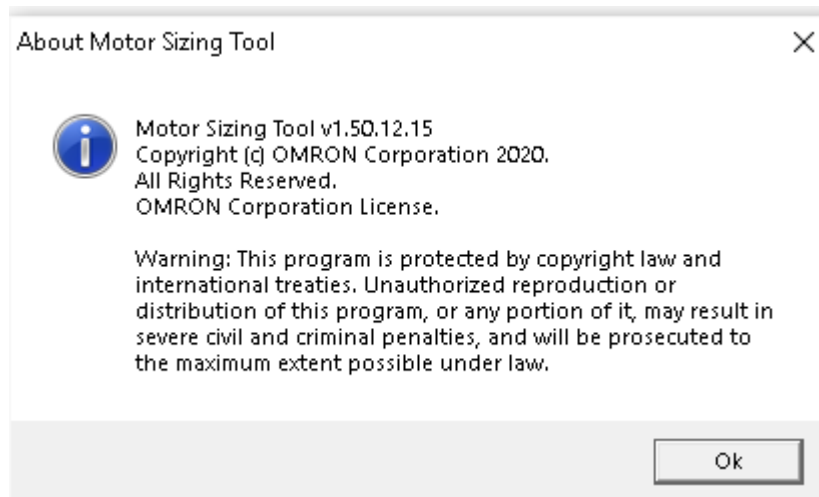

Fig. 16 About this program window
- About this program: opens a popup window showing the version number and some information about the application. See Fig. 16.